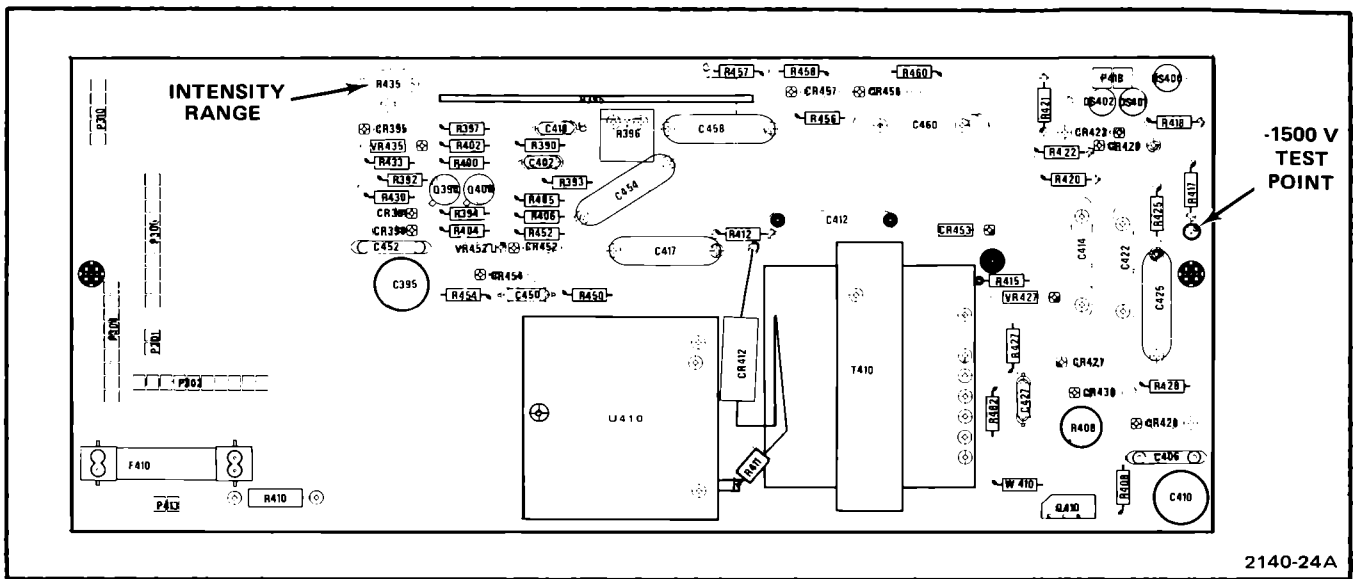

Fig. 4-2. Location of Intensity Range and HV test point on High Voltage assembly. (Board shown with cover removed.)
d. Set the dc voltmeter (vom) to measure at least −1500 V dc and connect it between the HV Test Point and chassis ground. See Fig. 4-2 for the test point location.
c. ADJUST—Intensity Range R435 so the spot is just extinguished. See Fig. 4-2 for the adjustment location.